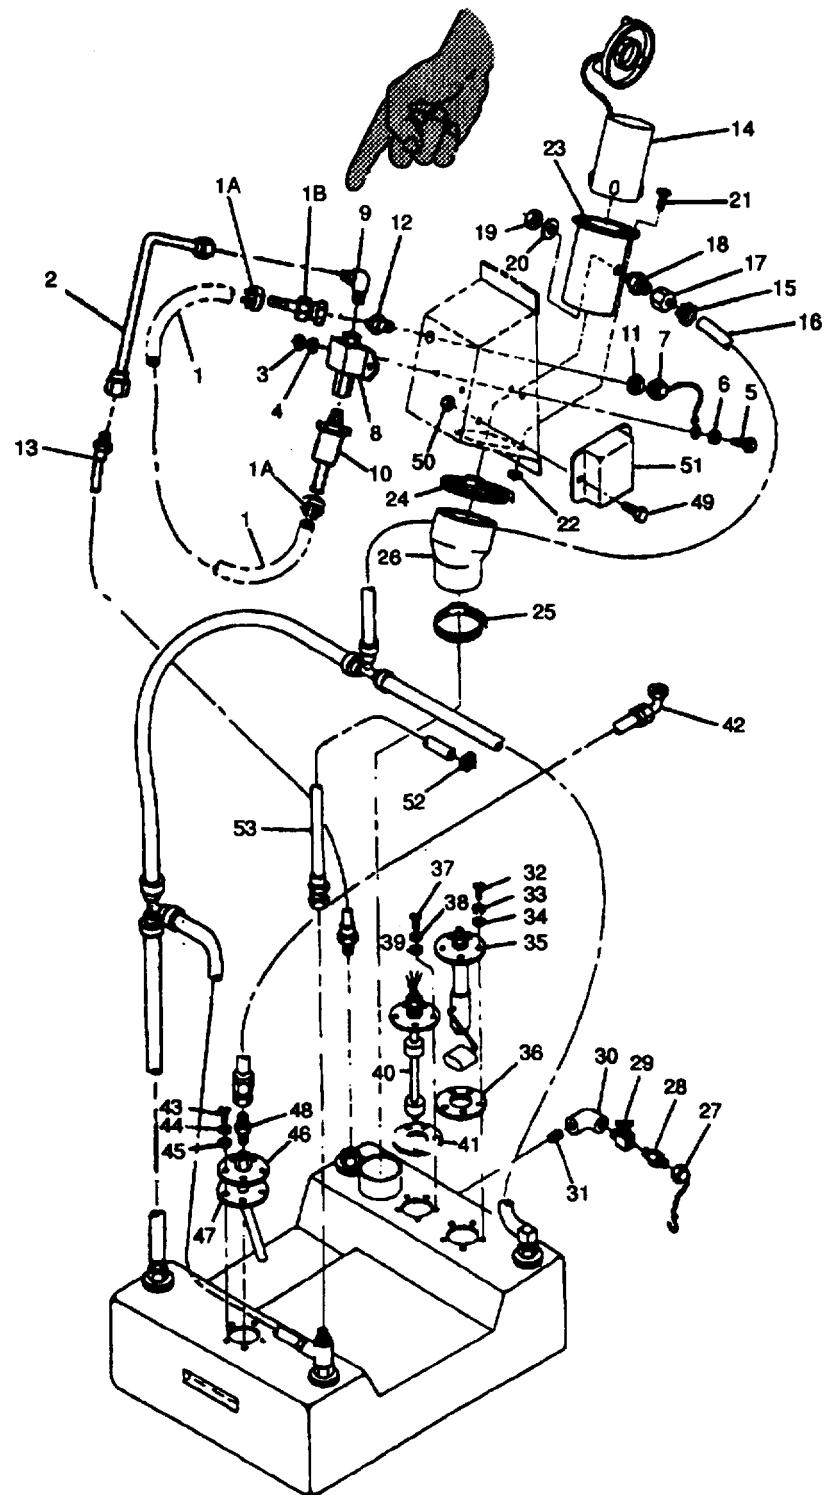

FIGURE 2-27. Fuel Tank Filler Neck and Low Pressure Fuel System
- c. Identify fuel line or fitting that is damaged or leaking and must be removed as shown in FIGURE 2-27
- b. Inspect auxiliary fuel pump (8, FIGURE 2-27) for leaks, cracks, missing hardware, loose connections, and other damage.
- d. Disconnect auxiliary fuel pump outlet line (13, FIGURE 2-27) at fuel tank fitting and place disconnected end in measuring container.
- h. Connect auxiliary fuel pump outlet line (13) at fuel tank fitting.
- d. Tag and disconnect auxiliary fuel pump (8, FIGURE 2-27) electrical connector.
- e. Loosen damps (1a). Disconnect fitter (10) and remove adapter fitting (1b) from filler neck panel fitting (12). Remove adapter fitting (1b) from fuel inlet hose (1). Remove fitter (10) from auxiliary fuel pump (8). Cap fuel inlet hose.
- f. Disconnect auxiliary fuel outlet line (2) from auxiliary fuel pump (8).
- g. Remove nuts (3), lockwashers (4), bolts(5), washers(6), cap and chain assembly(7), and auxiliary fuel pump (8).
- h. Remove fitting (9) from auxiliary fuel pump (8).
- i. If necessary, remove nut (11) and fitting (12) from fuel filler panel.
- a. If removed, install fitting (12, FIGURE 2-27) and nut (11) in fuel filler panel.
- b. Install fitting (9) on auxiliary fuel pump (8).
- c. Install auxiliary fuel pump (8) and cap and chain assembly(7) in generator set with bolts (5), washers (6), lockwashers (4), and nuts (3).
- d. Connect auxiliary fuel outlet line (2) to auxiliary fuel pump (8).
- e. Remove caps from fuel inlet hose (1). Install filter (10) on auxiliary fuel pump (8). Install adapter fitting (1b) on fuel inlet hose (1) and connect adapter fitting (1b) to filler neck panel fitting (12). Connerct other end of fuel inlet hose to filter (10). Tighten damps (1A).
- c. Remove cap (27, FIGURE 2-27), open fuel drain valve (29) and drain fuel into suitable container.
- e. Remove filler neck cap and tube assembly (14).
- f. Loosen clamp (15) and disconnect hose (16) from adapter (17).
- g. Remove adapter (17) from fitting (18).
- h. Remove nut (19), washer (20), and fitting (18) from side of filler neck (23).
- i. Remove bolts (21) and nuts (22) securing filler neck (23) to generator set housing.
- j. Remove clamps (24) and (25), hose (26), and filler neck (23) from fuel tank opening. Cover fuel tank opening.
- c. Inspect hose (26, FIGURE 2-27) for cracking, wear, or other damage.
- d. Inspect filler neck (23) for corrosion, cracking, or other damage.
- e. Inspect filler neck cap and tube assembly (14) for damage.
- a. Position hose (26, FIGURE 2-27), clamps (24) and (25), and filler neck (23) on fuel tank.
- b. Install bolts (21) and nuts (22) securing filler neck (23) to generator set housing.
- c. Tighten clamps (24) and (25).
- d. Install fitting (18), washer (20), and nut(19) inside of filler neck (23).
- e. Install adapter (17) on fitting (18) and connect hose (16) to adapter (17) with clamp (15).